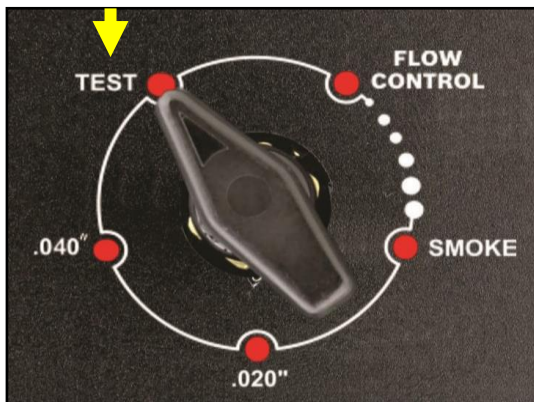

Figure 2
- C. Connect supply hose to Test Port. (Figure 2)